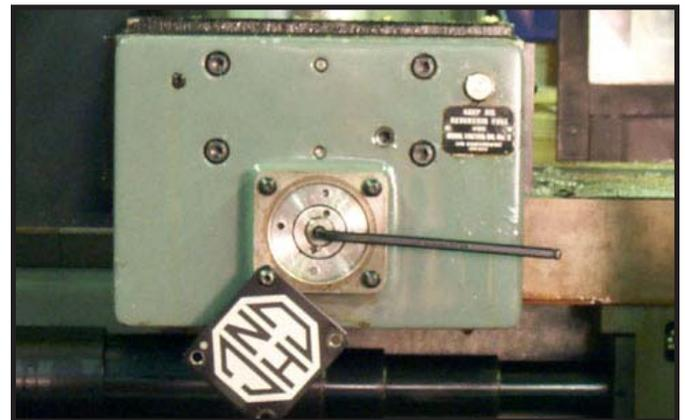
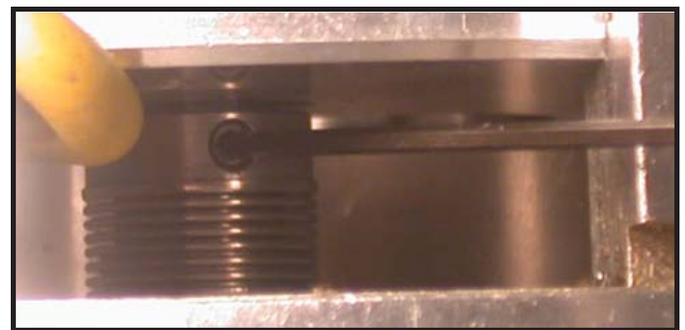

Figure 4.1.4
Figure 4.1.5
At the front of the lathe remove the ball screw cover and insert a allen wrench (Figure 4.1.4) to turn the ball screw to align set screws in the coupler on the feedback unit (Figure 4.1.5) so the (2) set screws can be loosened. At this time you can turn the X axis ball screw and check how it feels.